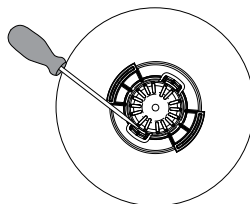

Figure 13.1g
4. Remove the filter screen by inserting the tip of a flat-blade screwdriver into the slot as shown, Figure 13.1g, and gently apply outward pressure until the catch releases.